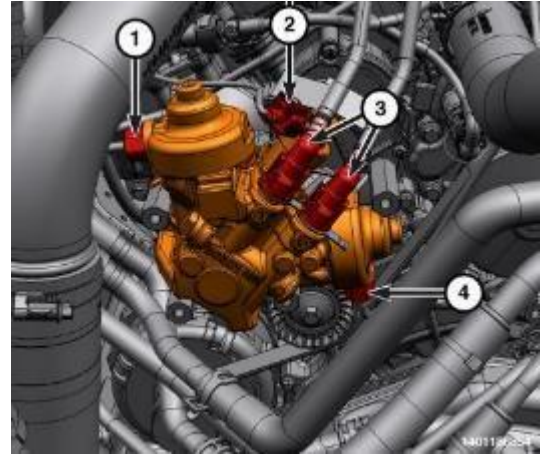

Figure 152 – Pump Connections
- 16. Disconnect the fuel injection pump electrical connector (2) (Figure 152).